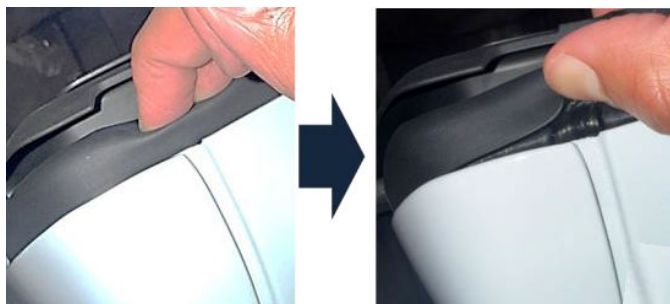

Fig. 6
2. Apply uniform pressure to the weatherseal to achieve proper wet-out Fig. 6.